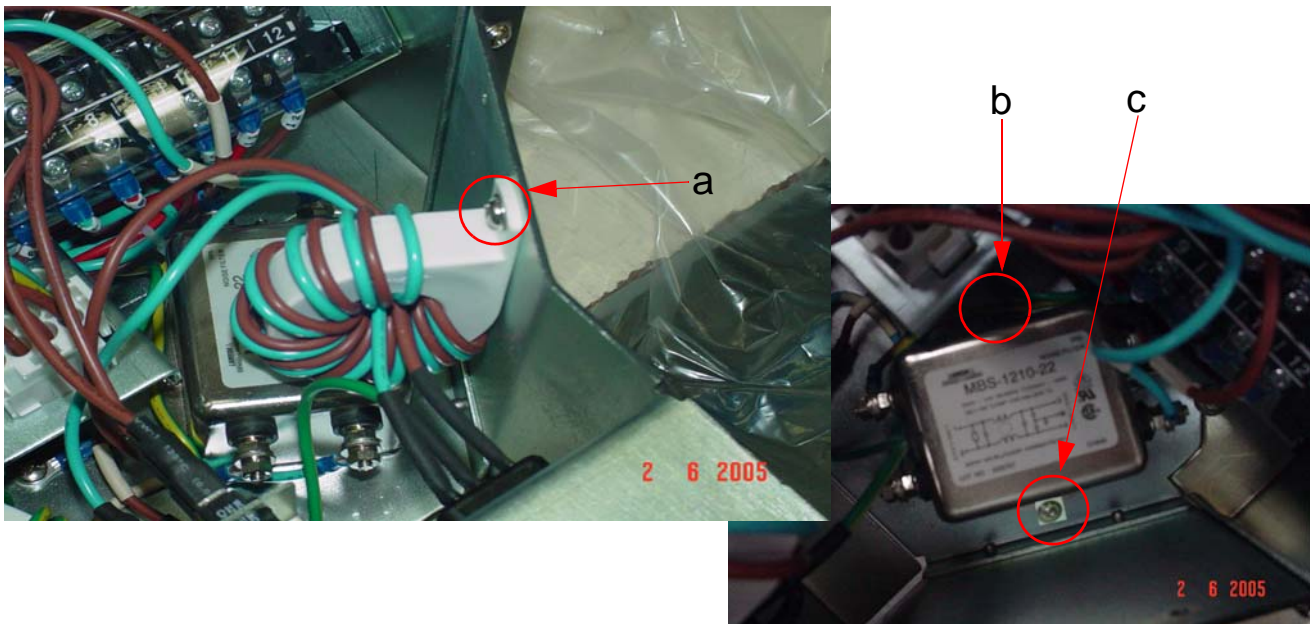

Figure 8-65 Noise Filter Disassembly
- 2.) Remove the 3 screws marked as “a, b, c” as seen in Figure 8-65 on page 8-84